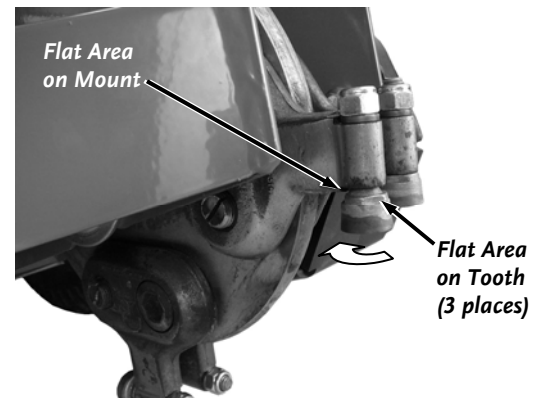

Figure 41
4. Rotate the Tooth until the next flat area on the side of the Tooth is aligned with the flat area of the Mount (**Figure 41**).